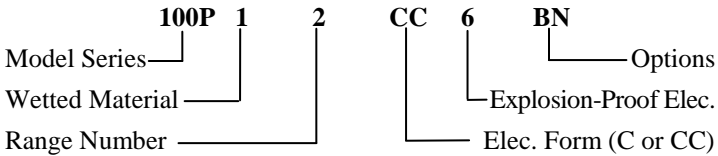

Figure 3. Part Number Breakdown
The part number contains information about which configurations and options are included in your Adjustable Pressure Switch. To determine the pressure range, electrical rating, and options, compare the part number of your unit with the information in Figure 3 below and the following tables.
* See Figure 3 on page 13 for the part number breakdown